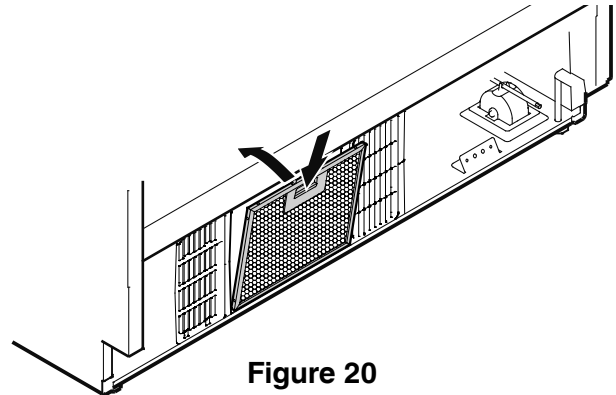

Figure 20
Mounting the Ventilation Grille - Figure 20, 21
2. Remove the blue protection film from the dust filter provided and insert the filter into its opening in the toe kick area as shown in **Figure 20**. Attach the filter at the bottom, press down the button and click into place.